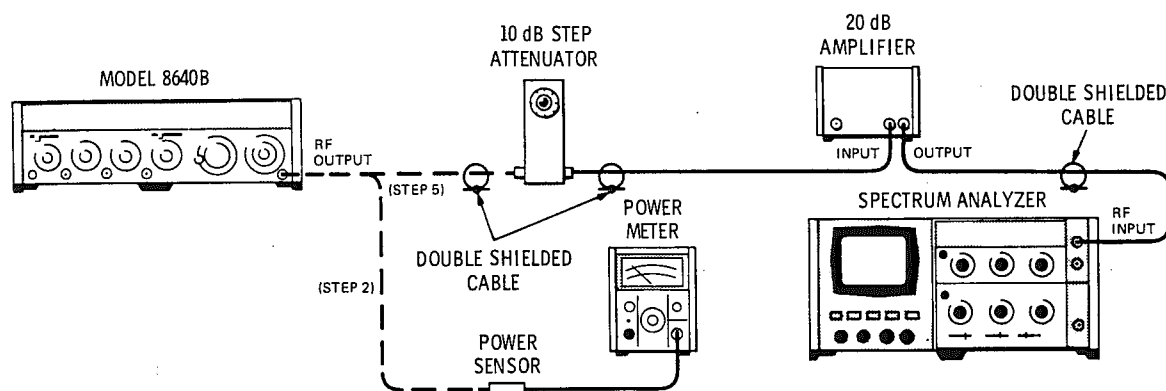

Figure 5-1. Output Level Vernier and Meter Adjustment Test Setup
1. Connect equipment as shown in Figure 5-1 after setting Signal Generator's controls as follows: